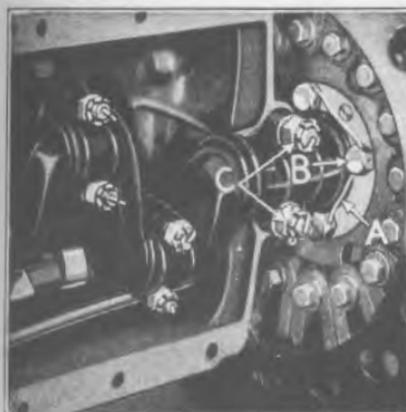

Fig. 257
- (a) Break flywheel cap screw wire (See "A" Fig. 257) and run out the flywheel cap screw "B" which prevents lifting bearing cap off of bolts.